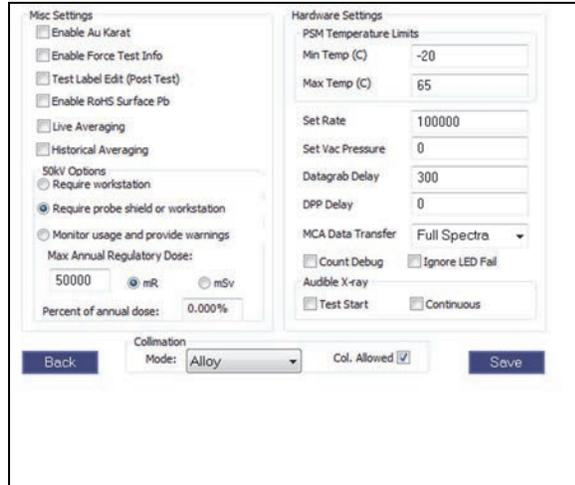

Figure 1-37 The Hardware/Misc Settings pane
2. Click **Hardware/Misc Settings** to display the **Hardware/Misc Settings** pane (see Figure 1-37 on page 31).